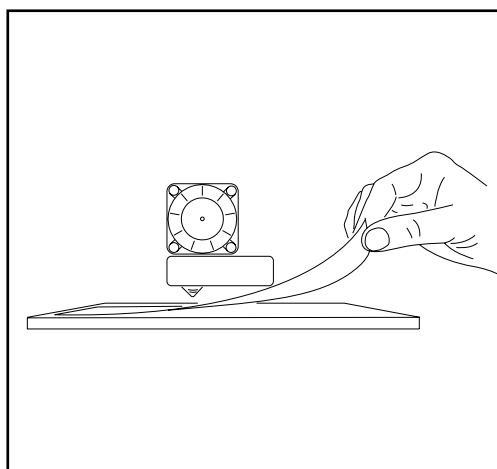

Figure 3.10 Slide a sheet of paper between the base and the extruder nozzle
- 1 Place a sheet of paper onto the print base (fig. 3.10). Press the control wheel and go to **Control > Level Plate**.